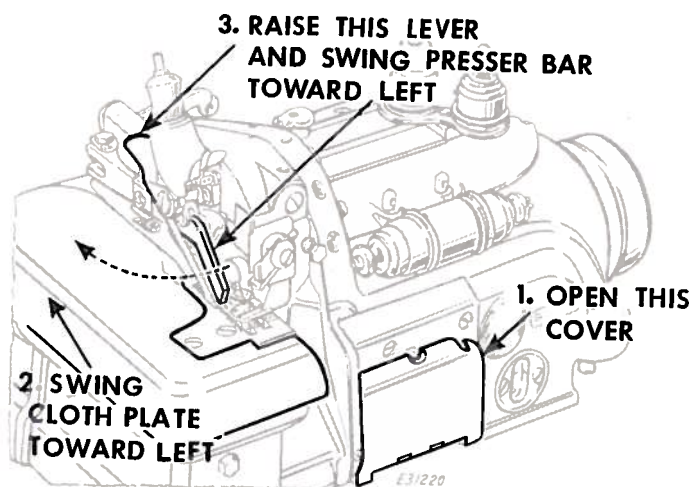

Fig. 8. Preparation for Threading
- . . . Open front cover plate, as instructed in **Step 1**, Fig. 8.